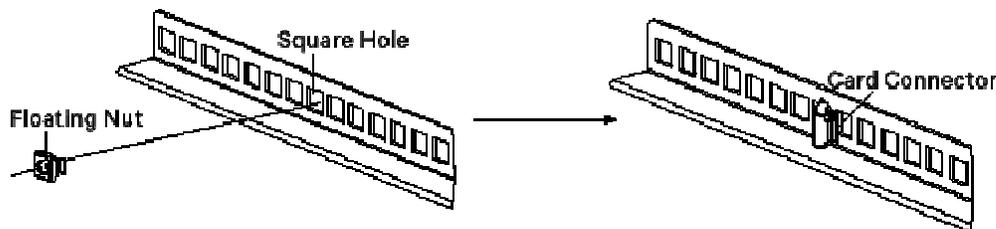

Figure 3-26 Floating Nut Mounting
1. Fix the fastener on one side of the floating nut into the square hole of the crossbeam, as shown in Figure 3-26.